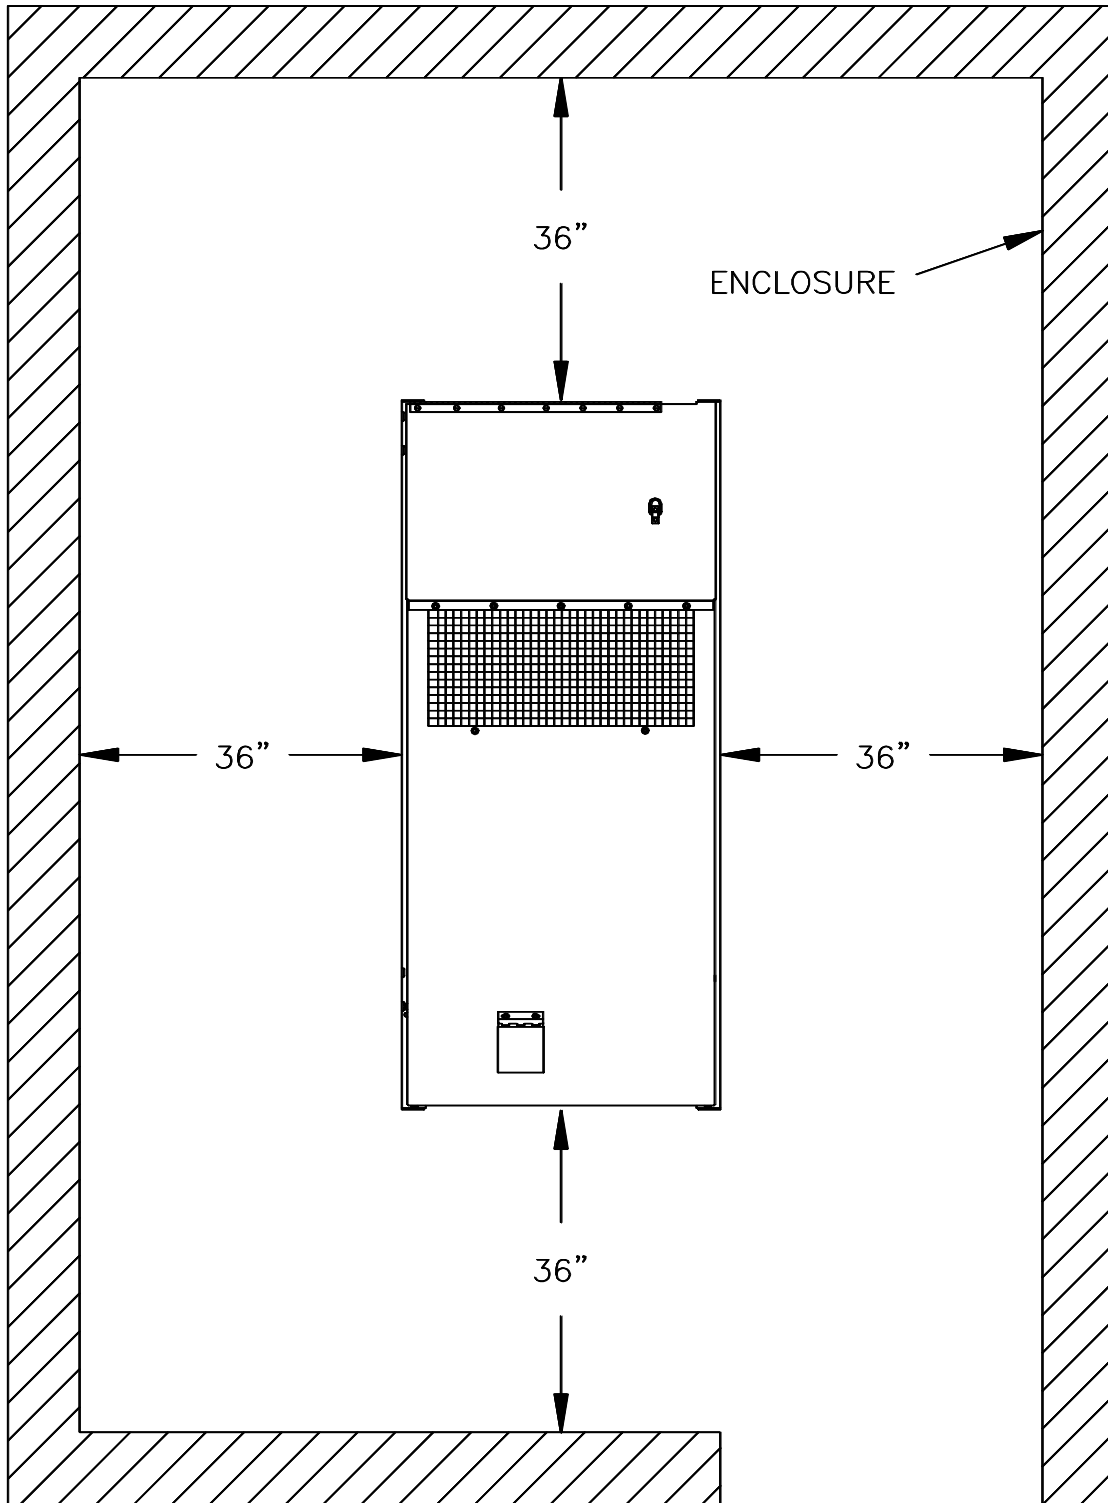

FIGURE 2-5. MINIMUM ENCLOSURE CLEARANCE MEASUREMENTS
- b. Allow space on all sides for service and maintenance. Refer to Figure 2-5 for minimum clearance measurements.
- g. Allow space on all sides of generator set for service and maintenance. Refer to Figure 2-5 for minimum clearance measurements.